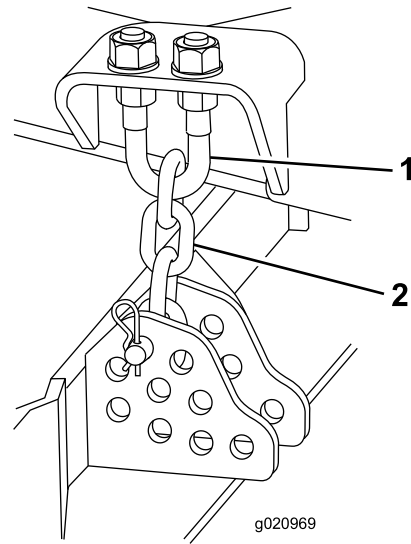

Figure 121
4. Remove the hairpin cotter and clevis pin securing the height-of-cut chains to the rear of the mower deck (Figure 121).